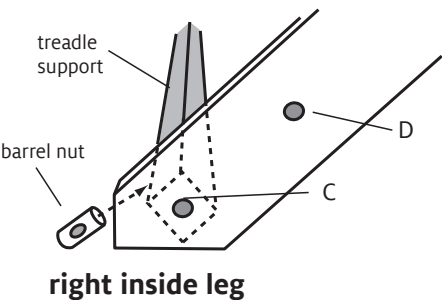

FIGURE 4: INSIDE LEG
9. From the front of the loom, detach all tie-up cords. Remove the machine screws and the 1/4-20 barrel nuts holding the treadle support from the hole closest to the floor (Figure 4, page 4). Set aside the
15. Attach the height extender blocks to the inside legs using 1/4-20 x 1-1/4" Phillips truss head machine screws, inserted from the inside of the leg through the bottom hole (hole [C], Figure 4), then through the hole with the threaded insert on the height extender block (3rd hole from the bottom). Secure firmly.
16. Finish attaching the height extender blocks by inserting a 1/4-20 x 1-3/4" Phillips truss head machine screw from the inner side of the leg through the top hole of the leg (Figure 4, hole [D]) and the top hole of the height extender block. Secure the screw with a 1/4" washer and 1/4-20 lock nut. Repeat for the other inside leg and height extender block.